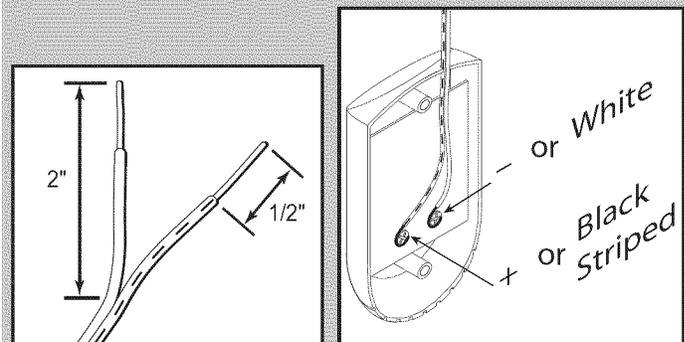

FIG. 3-2 Splitting and stripping.
- Split and strip ends of wire (**Fig. 3-2**).